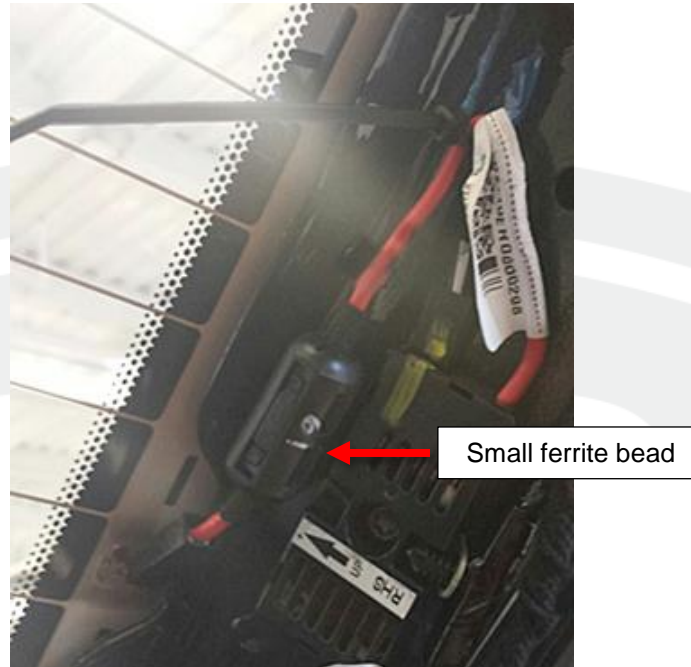

Figure 6
- Clip a small ferrite bead onto the covered section of the defrost wire, as close to the harness connector as possible. (Figure 6).